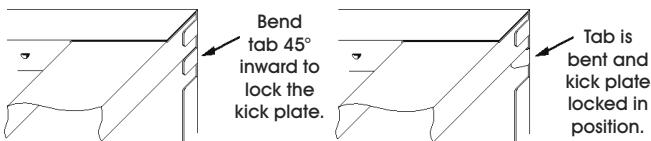

Figure 5
3. Using a flat head screwdriver, bend the tab on the bottom of the side panel 45° inward to lock the kick plate in place. (See Figure 5)